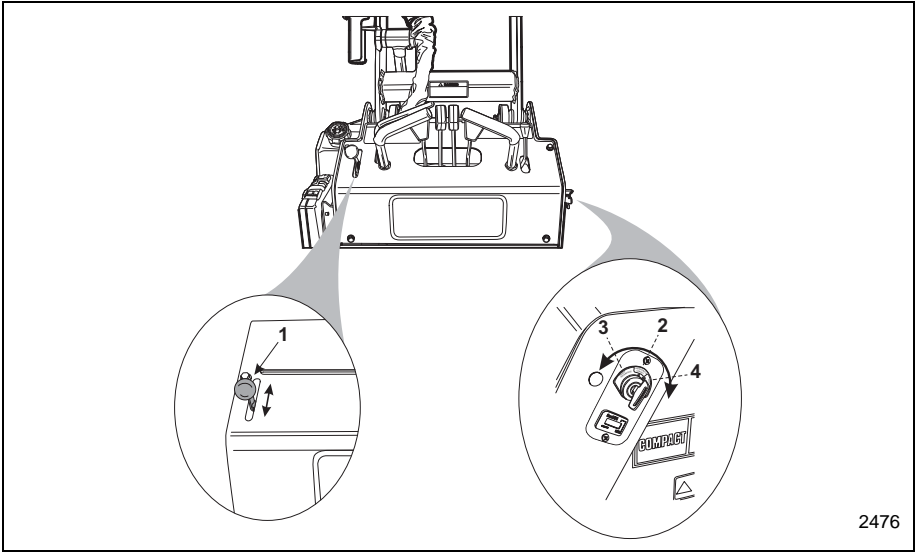

Figure 3-12 Engine Starting
2. Move the throttle lever (Item 1, Figure 3-12) to about half way between fast and idle engine speeds.
3. Rotate the ignition key counterclockwise to the PREHEAT position (Item 3, Figure 3-12) to allow the glow-plugs to warm the engine cylinders for approximately 10 seconds.
4. Rotate the ignition key to the START position (Item 4, **Figure 3-12**) until the engine starts. The Low Engine Oil light and the warning sounder will turn on during this process. As soon as the engine starts, release the key. The key will return to the RUN position and the indicator light and sounder will turn off.